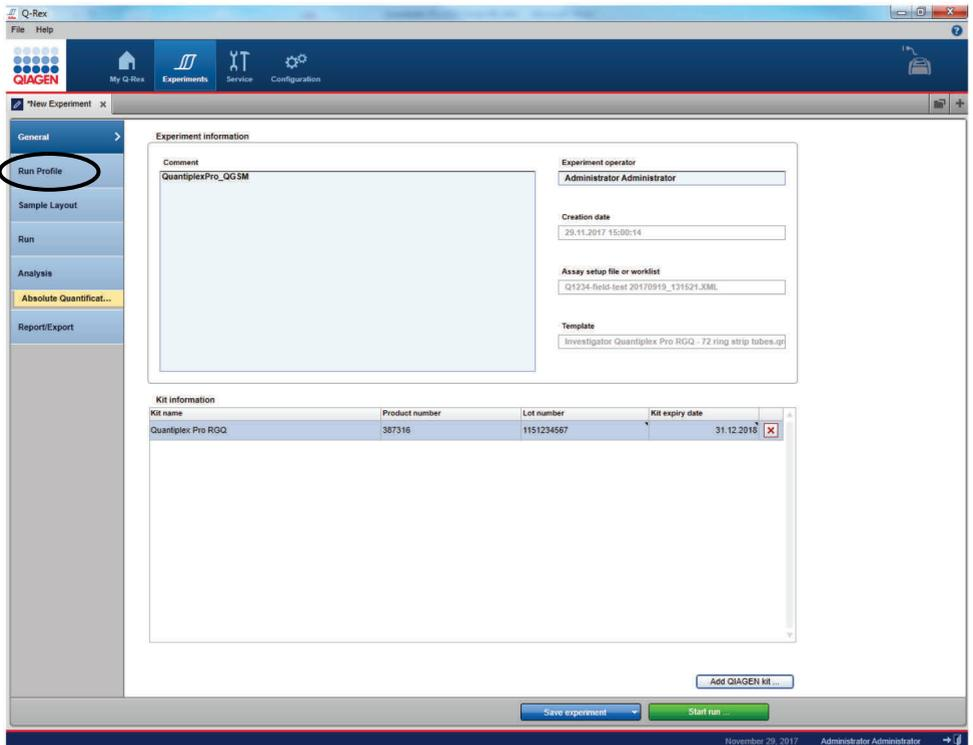

Figure 22. General settings in Q-Rex.
31. In the comments field add any additional information needed to be entered for the run (Figure 22).
32. Click on left side in the step marker on "Run Profile" (Figure 22).